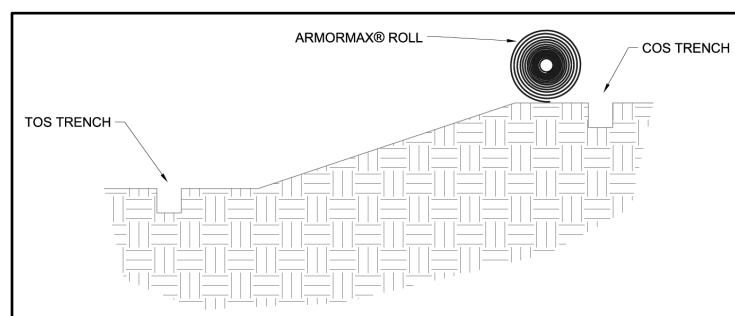
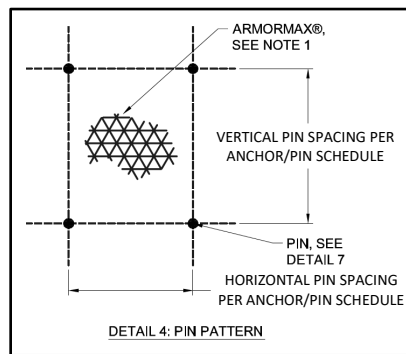
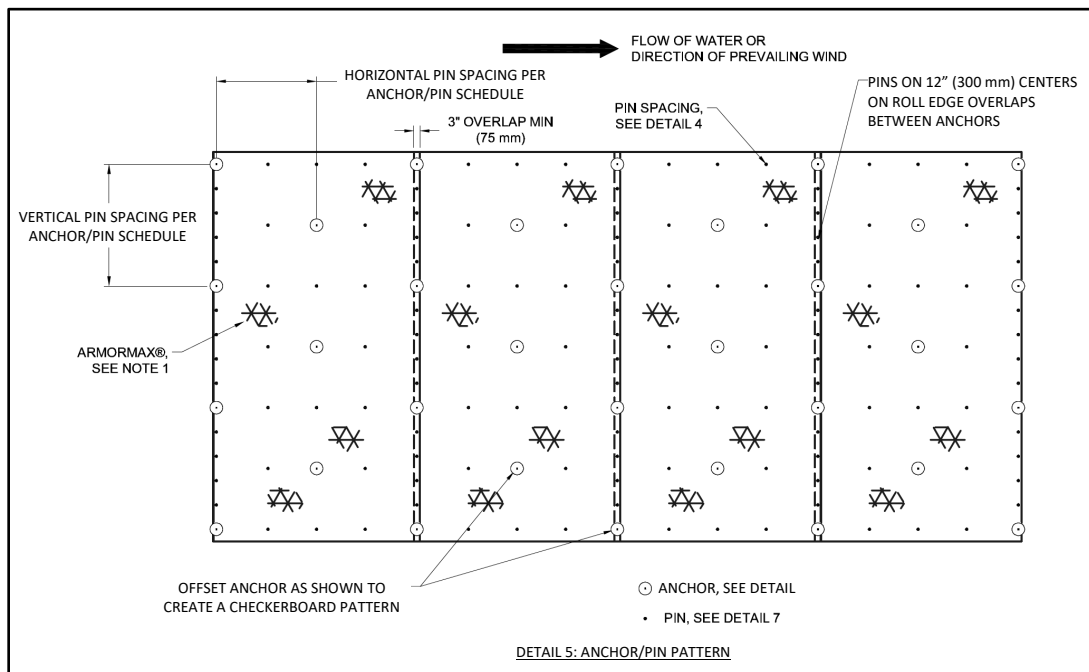
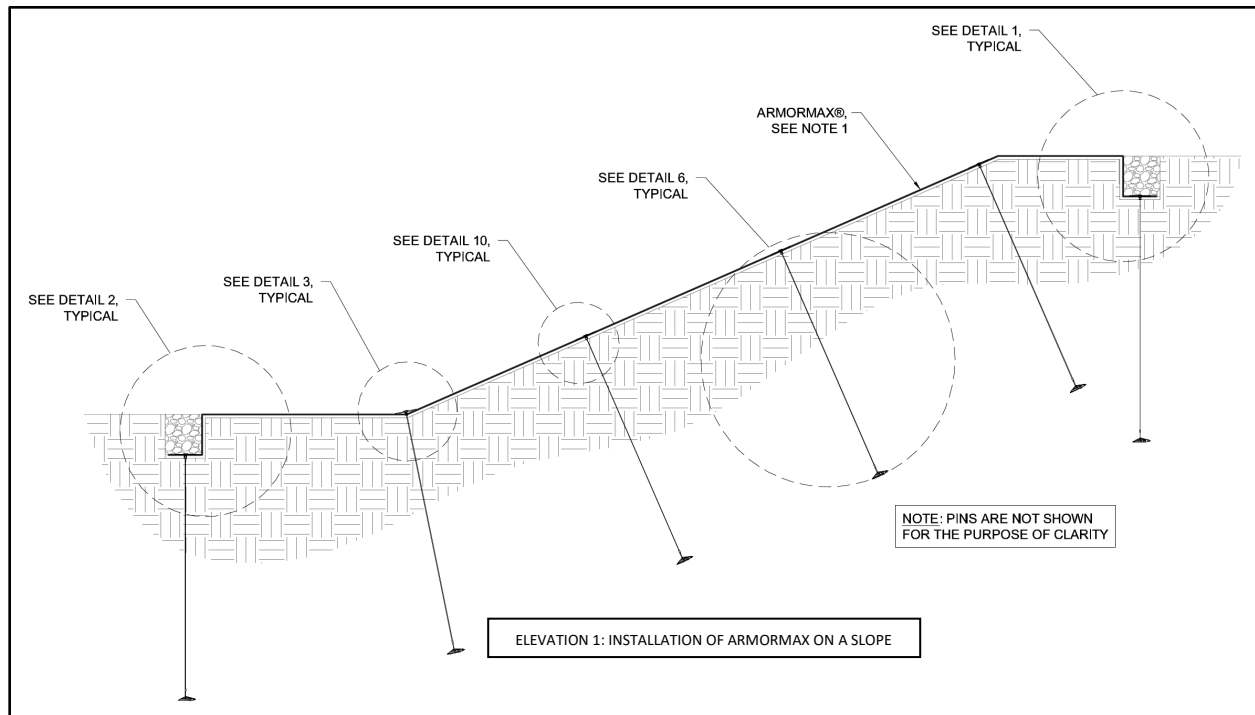

Figure 3: Crest of Slope (COS) Trench Alignment
Figure 7: Example Pin Pattern
Figure 8: Example of Anchor Pattern - 0.5 Anchors/yd²
Figure 13: Completed Slope Isometric View
2. Starting at the COS trench, lay ARMORMAX roll so that the roll ends points towards the crest of the slope (Figure 3), with a 3 inch (75 mm) overlap created at adjacent panel edge locations. Ensure that adjacent panel edges maintain a minimum 3 inch overlap during **ARMORMAX LAYDOWN** (Figure 8).
6. Secure ARMORMAX panels in place using pins, Primary anchors, and anchors across the slope surface according to the project's engineered design. Pin and anchor placement should reflect a staggered checkerboard pattern across the slope surface for best results (Figure 7 and Figure 8).
- Roll edges shall be overlapped a minimum of 3 in (75 mm) with pins placed on 12 in (300 mm) centers in between anchors on intervals based on the slope stability analysis (Figure 8).
9. Continue to work down the length of the slope by repeating steps 1 through 8 overlapping each adjacent ARMORMAX panel by 3 inches (75 mm) (Figure 8). The last ARMORMAX panel should terminate on the Slope Armoring Edge (SAE) with pins on 12 in (300 mm) centers in between anchors on intervals based on the slope stability analysis. At a minimum, ARMORMAX panels should be pinned entirely across the slope surface, pins and anchors should be installed in the trenches, and the trenches should be backfilled and compacted at the end of each day to minimize rework in the case of a major rain event. Specific project conditions may warrant further evaluation of installation order for ease. An example elevation view (Figure 13) of a slope armored with ARMORMAX can be seen below for overall reference. Consult Propex Engineering Services at (800) 621-1273 with any questions that you may have.